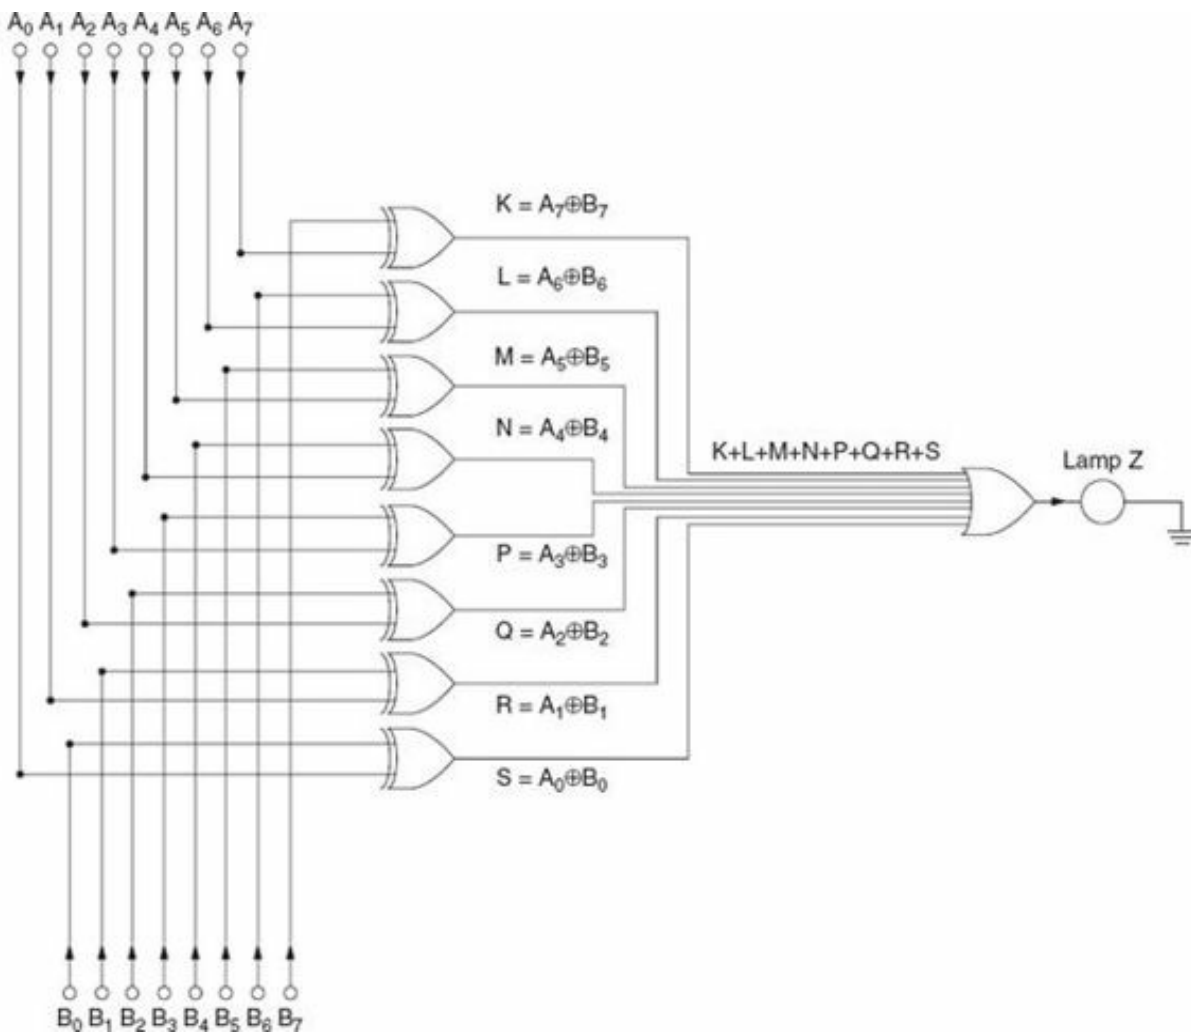
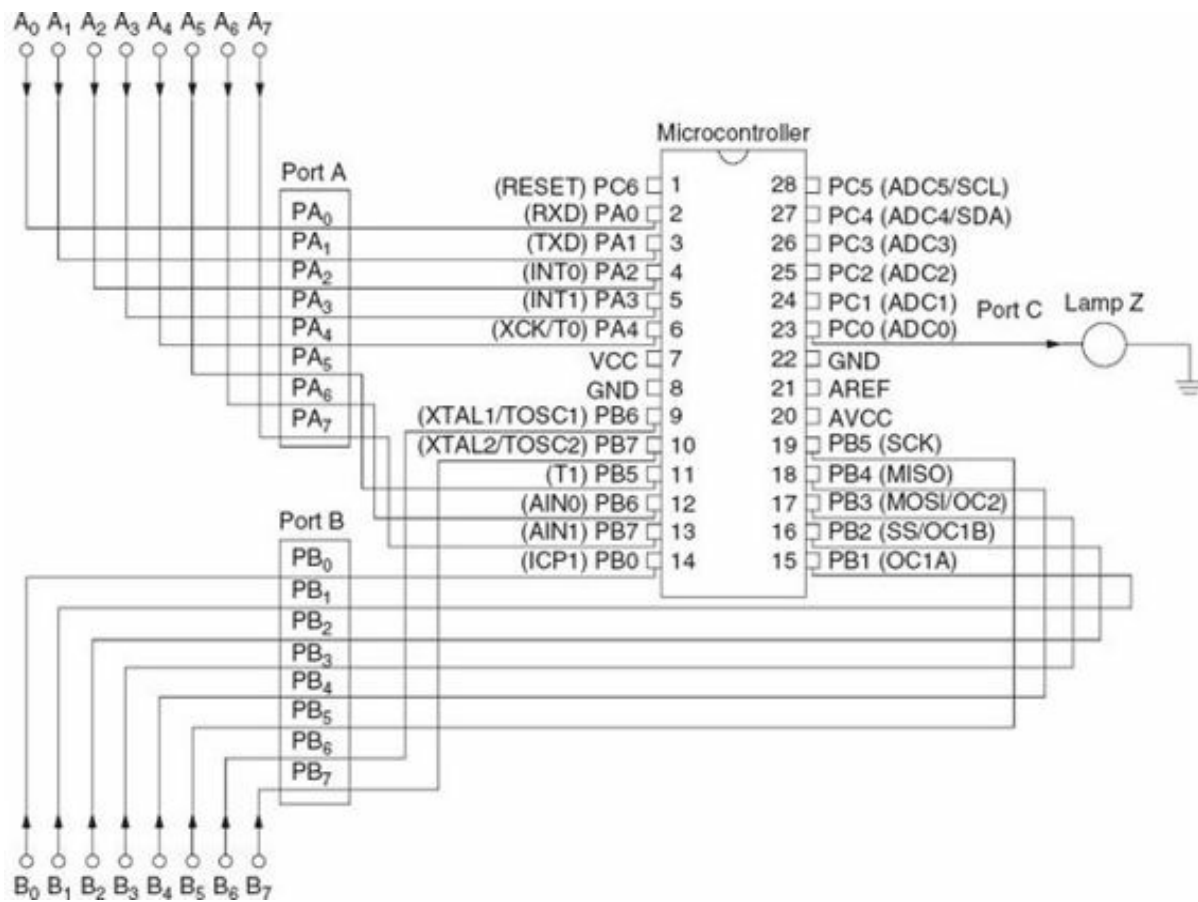

FIGURE 9.3 Hardware tester for logic.
FIGURE 9.4 Microcontroller.
Figure 9.3 shows a design that lights the output light Z any time a bit at one line on the cable does not match its counterpart on the other cable. Even if data is flying down the cables at millions of bytes per second, if 1 bit fails 20 percent of the time, the light at the output will be illuminated to 20 percent of its maximum brightness. This logic system uses two-input XOR gates, whose output is high (logic 1) only when its pair of inputs do not match. An eight-input OR outputs a 1 which turns on lamp Z if any bit does not match. Figure 9.3 shows the hardware for this tester where  $A_0$  through  $A_7$  are the output data of one machine and  $B_0$  through  $B_7$  are the output data of another machine.
For comparison, the same circuit could be done using a microcontroller, which is a microprocessor with its own memory and I/O controllers built in. Assume, for example, a hypothetical 8-bit microcontroller is already supplied with all its power, clock, and control signals. Figure 9.4 shows the microcontroller in terms of the inputs and outputs attached to it. In this figure the same two 8-bit cables are attached to ports A and B of the processor, instead of the inputs of XOR gates.
If the program in the preceding textbox runs in the processor shown in Fig. 9.4, it performs the same operations as the hardware shown in Fig. 9.3. The only difference is that the microcontroller may be a little slower at doing the comparison than the array of logic gates. If the binary on the two 8-bit cables changes between lines 2 and 3 of the program, the comparison could show an error even if the two cables were matching perfectly, moment by moment. Therefore, it is necessary to clock this processor through its instructions faster than the data on the A and B cables.
In addition to memory, the microprocessor is connected to hardware devices called input ports and output ports. These are built-in parts of the microcontroller in Fig. 9.4 but are added externally in a microprocessor system. The same address pins that select one among thousands of memory locations for reading or writing can also select one among thousands of input ports and thousands of output ports.
It is hard to imagine any microprocessor system with more than a few dozen hardware input or output ports. The Z-80180 could certainly operate more than the three available ports in the microcontroller shown of Fig. 9.4. When the RD or WR signals are accompanied by an active memory request (MREQ) signal, one of the  $\frac{1}{2}$  million addresses is selected in the array of memory chips. This array of memory chips has a byte written to (WR) or read into the accumulator (RD) of the CPU from that specific memory location. If the signal called input/output request (IORQ) is active instead of MREQ, the same address on the address bus pins is used to select one of the I/O ports instead of the memory address. Although a computer may use several hardware ports, you will not find half a million input devices and another half a million output devices. If a design needs to be expanded beyond the limits of the address bus pin count, a large number of the 524,288 I/O addresses could actually be populated with memory boards instead of I/O ports.